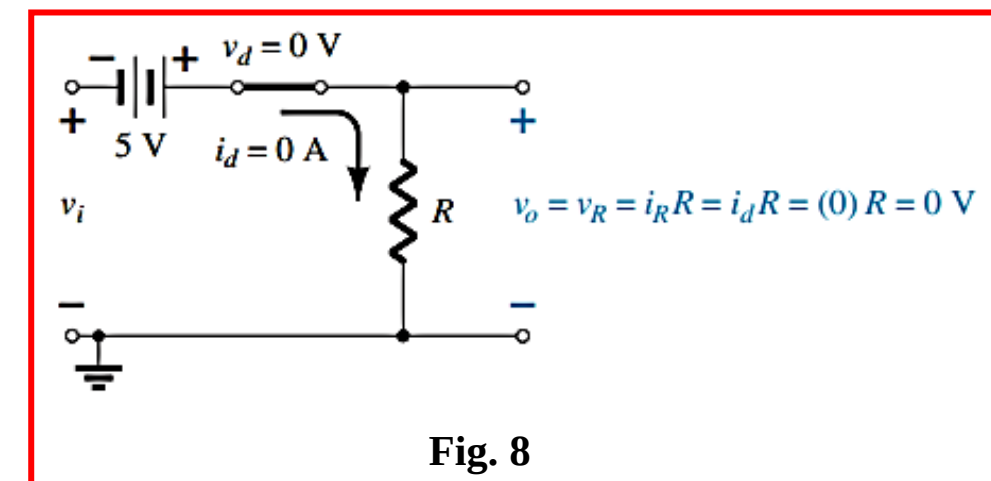

Fig. 8
Step 3: The transition model is substituted in Fig. 8, and we find that the transition from one state to the other will occur when,